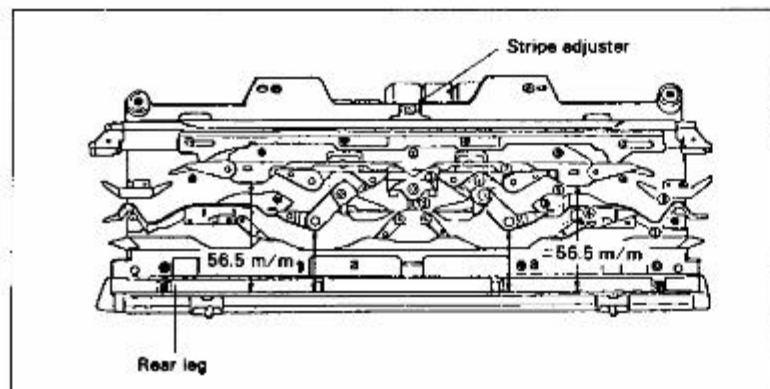

Fig. 5-4
- Hint : When the stitch dial is set at 5, the length at the stitch cam: 32.5 mm. (Fig. 5-4).
1. Loosen the right and left guide cam A clamp screws and the plate clamp nut. Clamp again after adjusting the distance between guide cam A and the carriage rear leg to 56.6 mm. (Fig. 5-4).